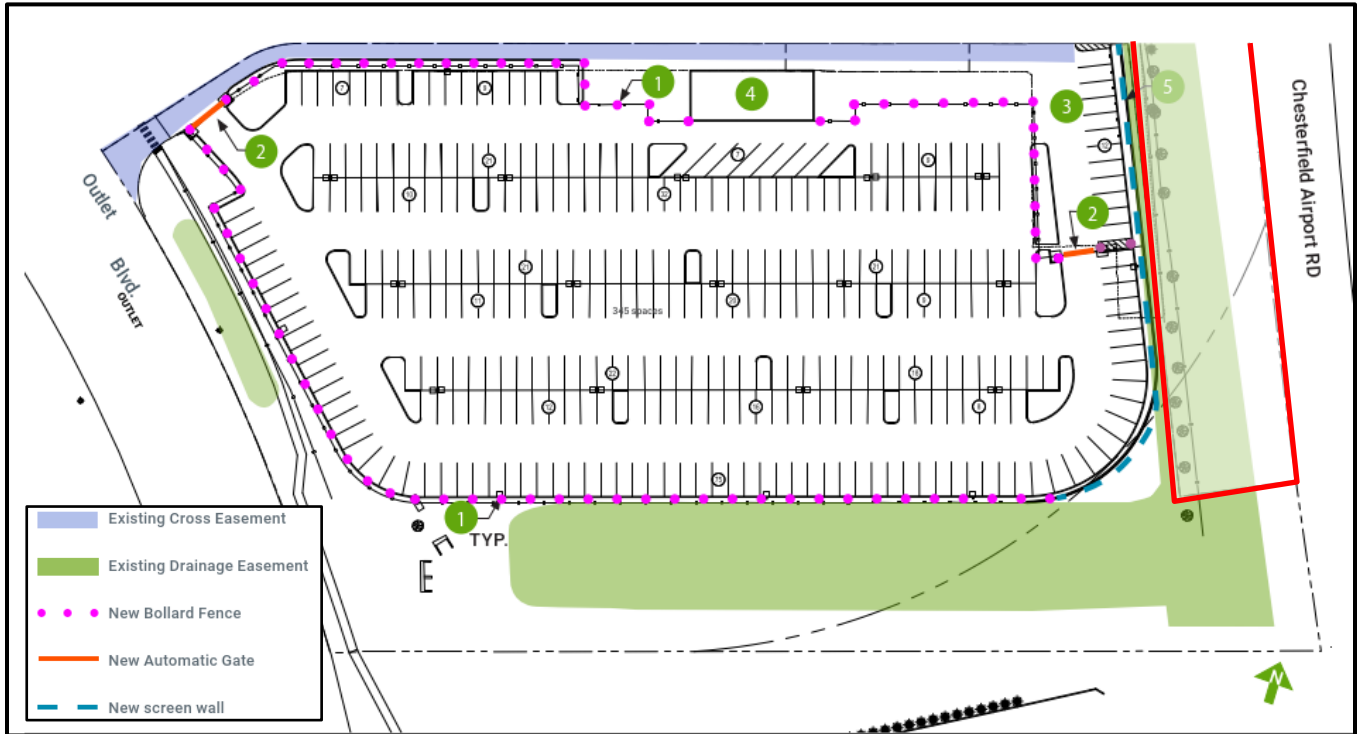

Figure 7: Color Site Plan
The parking area will feature a two-foot, six-inch (2'6") bollard fence surrounding a large portion of the site's parking area with gated access to this lot on the east and northwest sides. Notably, this bollard fencing will extend across 220 linear feet of pavement on both the north and south sides of the carwash. A detail of this bollard fencing is illustrated in Figure 7 below. A photo example of this bollard fencing is included in the ARB packet. The two (2) gates entering this inventory parking area will stand 6'0" at their highest point and will not be illuminated. A photo example of this gate and a detail are both found in the ARB packet as well.